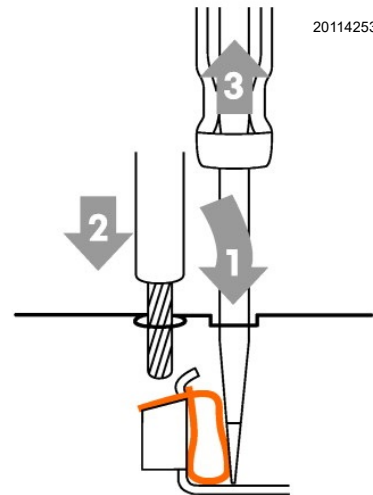

Fig. 32
- Insert the previously stripped cable and remove the screwdriver. Make sure the cable is securely fastened Fig. 32.